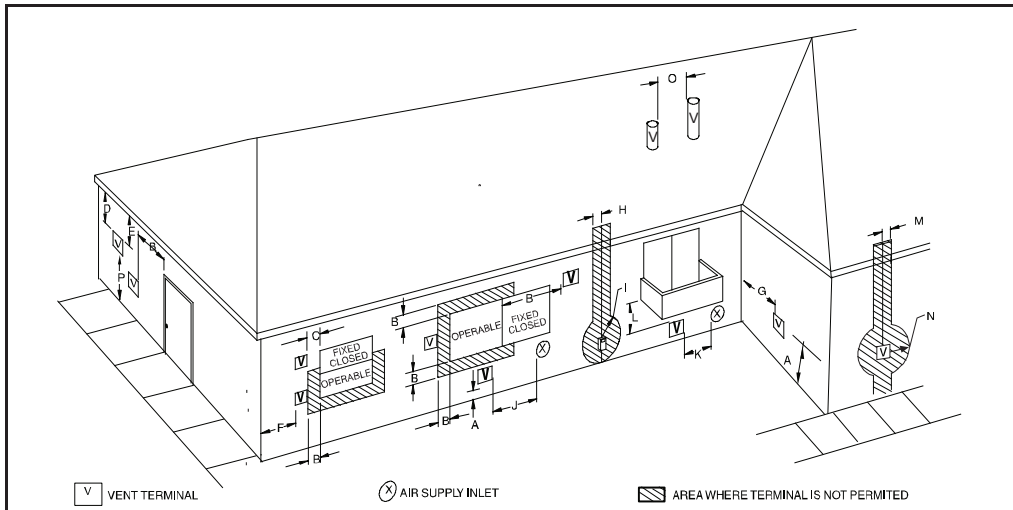

Fig. 44 – Ventilated Combustion Air and Non-Direct Vent Termination Clearance
In a ventilated combustion air option, the vent terminates and discharges the flue products directly to the outdoors similar to a direct vent system. See Fig. 44 for references to clearances required by National code authorities.
In a non direct-vent (1-pipe) system, all air for combustion is taken from the area adjacent to furnace, and all flue products are discharged to outdoor atmosphere. Air for combustion must be supplied as described in the Air For Combustion and Ventilation Section. Do not use an abandoned chimney to supply outside air to the furnace. See Fig. 44 for references to vent clearances required by National code authorities.
For vent termination clearance, references to National codes are shown in Fig. 43 for Direct Vent/2-Pipe system and Fig. 44 for Ventilated Combustion Air/Non-direct Vent/1-Pipe system. For exterior termination arrangements, refer to Fig. 41 for Direct Vent/2-Pipe system and Fig. 42 for Ventilated Combustion Air/Non-Direct/1-Pipe system. Contact Local code authorities for other requirements to and/or exemptions from the National codes shown in the figures.
1. Comply with all clearance requirements stated in Fig. 43 or Fig. 44 per application.
The vent pipe for a Ventilated Combustion Air System must terminate outdoors. See Fig. 44 for references to vent clearances required by National code authorities. Allowable vent terminations are shown in Fig. 42. The combustion air pipe terminates in a well-ventilated attic or crawl space. Follow the clearances as shown in Fig. 51.
The vent pipe for a Non Direct Vent (1-pipe) system must terminate outdoors. See Fig. 44 for references to vent clearances required by National Code authorities. Allowable vent terminations are shown in Fig. 42.